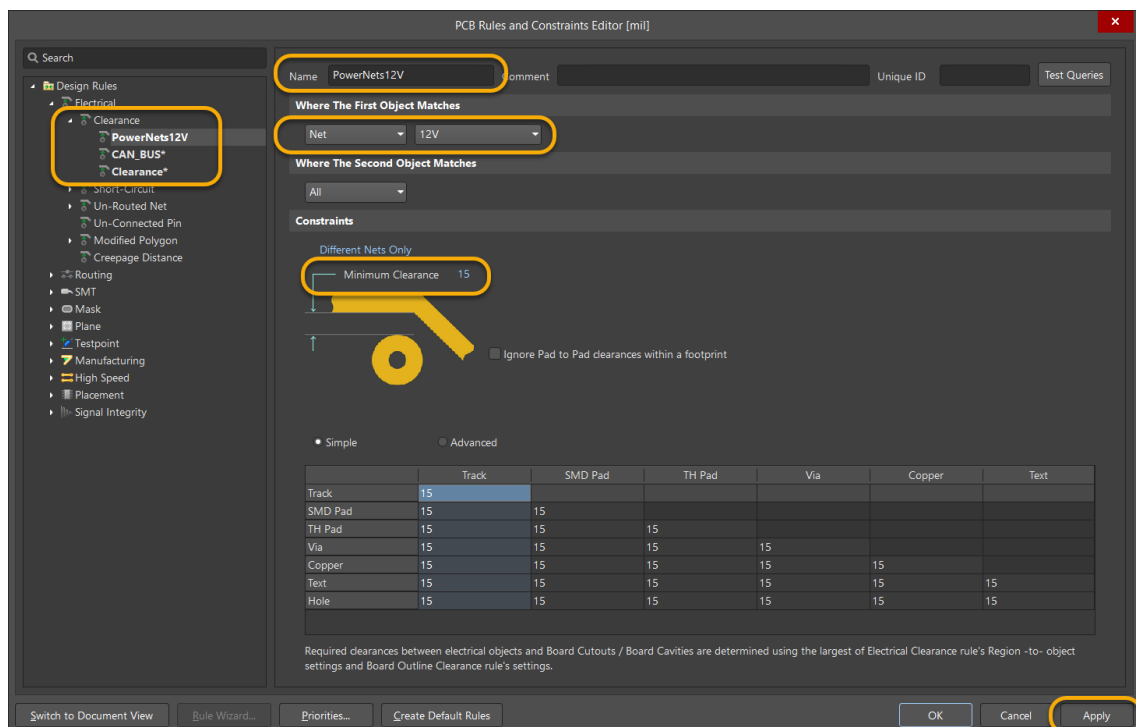

Figure 4. PowerNets clearance rule definition
17. Assign each field according to Figure 4 below.